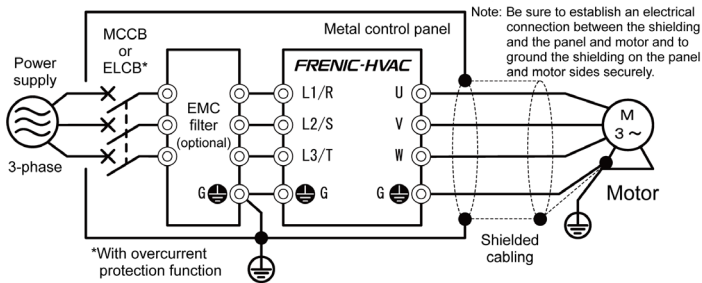

Figure 8.3 Installation inside a Panel
- 5) When using an externally connected EMC filter (optional), place the inverter and filter on a grounded metal plate such as the surface of a panel, as shown in Figure 8.3. If noise emissions exceed the standard, place the inverter and any peripheral equipment inside a metal panel. For more information about how to use the inverter in combination with a filter, see Table 8.5.
Note that connection to the industrial low-voltage power lines is an exception. (See Figure 8.3.)